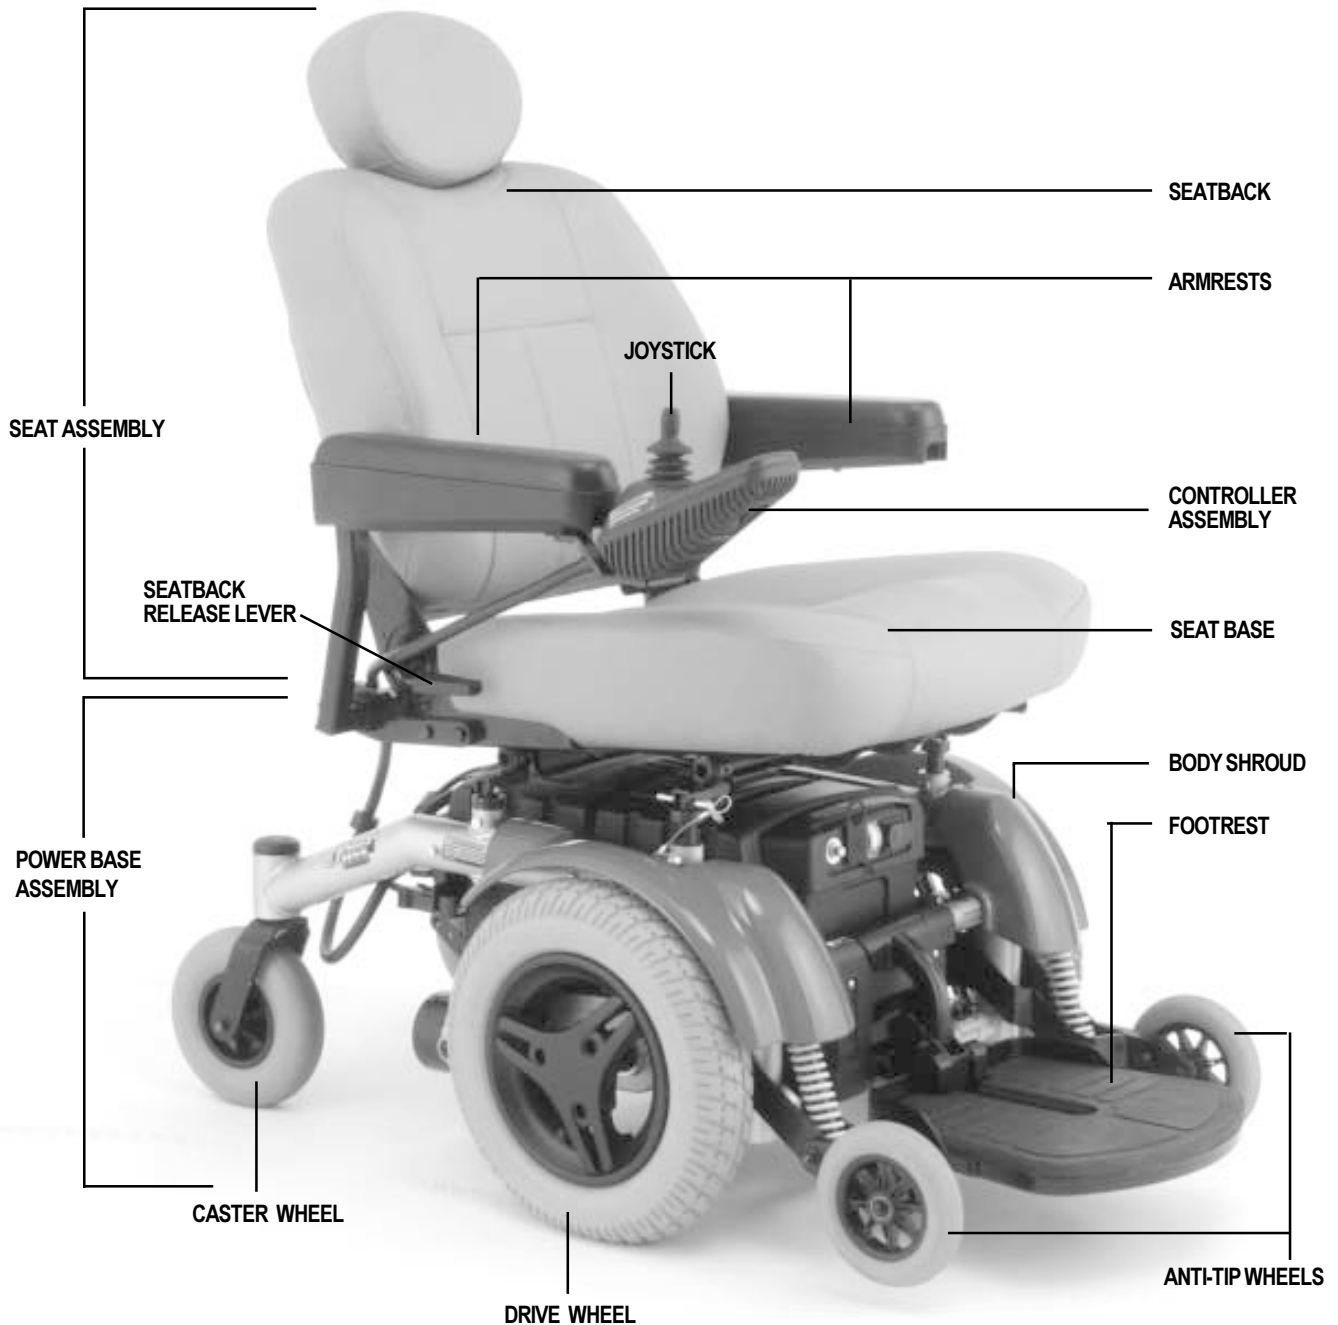

Figure 3. The Jazzy 1133
The Jazzy 1133 has three main assemblies: the power base, the seat assembly, and the controller assembly. See figures 3, 4, 5, and 6. Information on the standard seat assembly is in VI. "Comfort Adjustments." Information on the controller assembly is in VIII. "Operation."
3. Push the seatback release lever down and fold down the seatback. The seatback release lever is located on the right side of the seat. See figure 3.